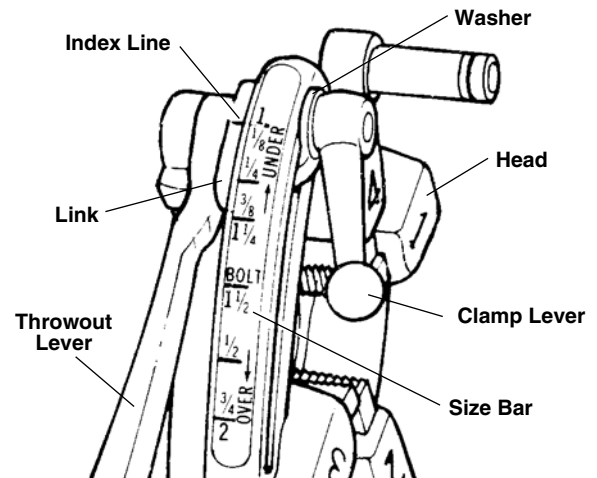

Figure 8 – 811-A Quick-Opening Die Head
6. Quick-Opening 811A Die Head (Figure 8) – When thread is completed, raise throwout lever to open position, retracting dies.
The 811-A Universal Die Head (*Figure 8*) for right-hand threads requires four sets of dies to thread pipe ranging from $\frac{1}{8}$ " through $1\frac{1}{2}$ ". One set of dies is required for each of the following pipe size ranges: ($\frac{1}{8}$ "), ($\frac{1}{4}$ " and $\frac{3}{8}$ "), ($\frac{1}{2}$ " and $\frac{3}{4}$ "), and (1 " through $1\frac{1}{2}$ "). Bolt threading requires a separate set of dies for each bolt size.